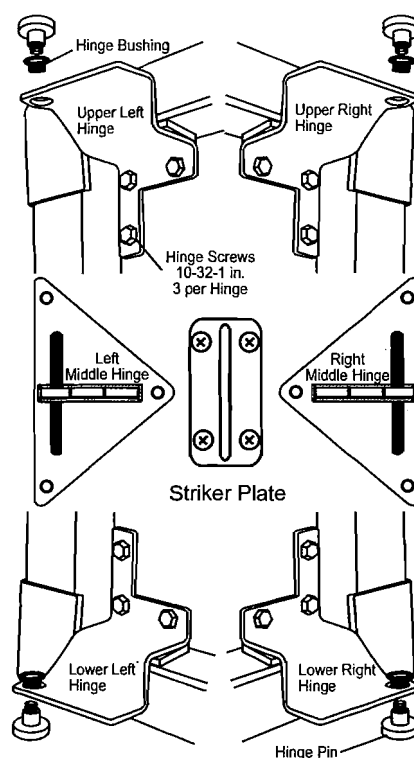

Figure 23. Upper and lower trim hardware.
7. Install the left and right middle hinge assemblies. Each hinge is fastened with three 10-32 x one inch hex head screws. See Figure 23.
8. Install the lower left and right fresh food cabinet hinges. Install hinge shims if previously removed. See Figure 23.
9. Install left and right fresh food cabinet doors. Follow steps **a** through **f** and see Figure 23.